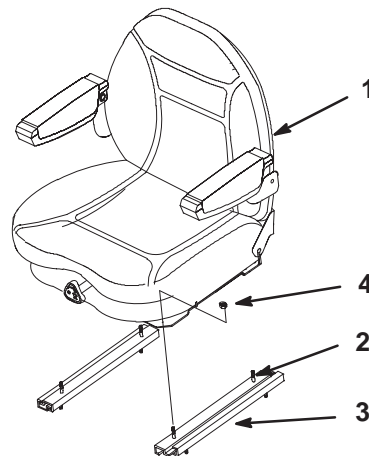

Figure 5
- Position seat on the studs in the adjustable tracks (Fig. 5).
- Install nuts onto studs (Fig 5).